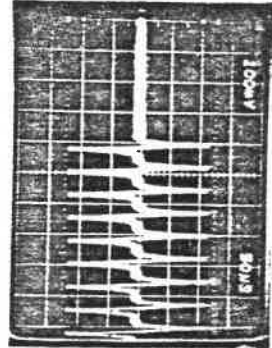

Figure 3-4. Index to Data Burst
- (1) Position index sensor (located on Clamp Support Beam) to center of travel; lightly tighten retaining screws.
- (2) Load magnetic heads.
- (3) Perform CE alignment as required to locate the cats-eye pattern at Track 16 (refer to Paragraph 3.7.2.2).
- (4) Perform 15 repulsive Step-Out commands to position the carriage at Track 01.
- (5) Set oscilloscope horizontal time base to 20  $\mu$ sec per division.
- (6) Referring to Figure 3-4, adjust phototransistor mounting block until the first transition of the 2 msec burst recorded at Track 01 occurs 200  $\pm$  100  $\mu$ sec after the leading edge of the Index pulse. Adjustment may be made with the use of a flat-bladed screwdriver placed between the phototransistor mounting block and Clamp Support Beam cavity as required.